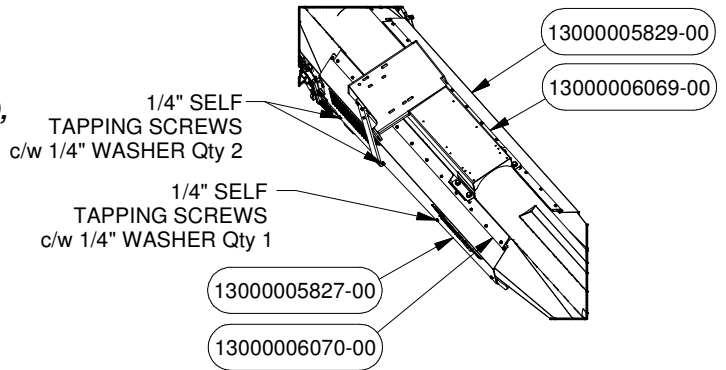

FIGURE 2
2. Place the Covers PN# 5827 and PN# 5829 with the Rubbers PN# 6069 and PN# 6070 (from Hardware Box PN# 7591) to the Intake using Self Tapping Screws and washers as shown in Figure 2. Fasteners can be found in Bolt Bag PN# 6068 in Hardware Box PN# 7526.